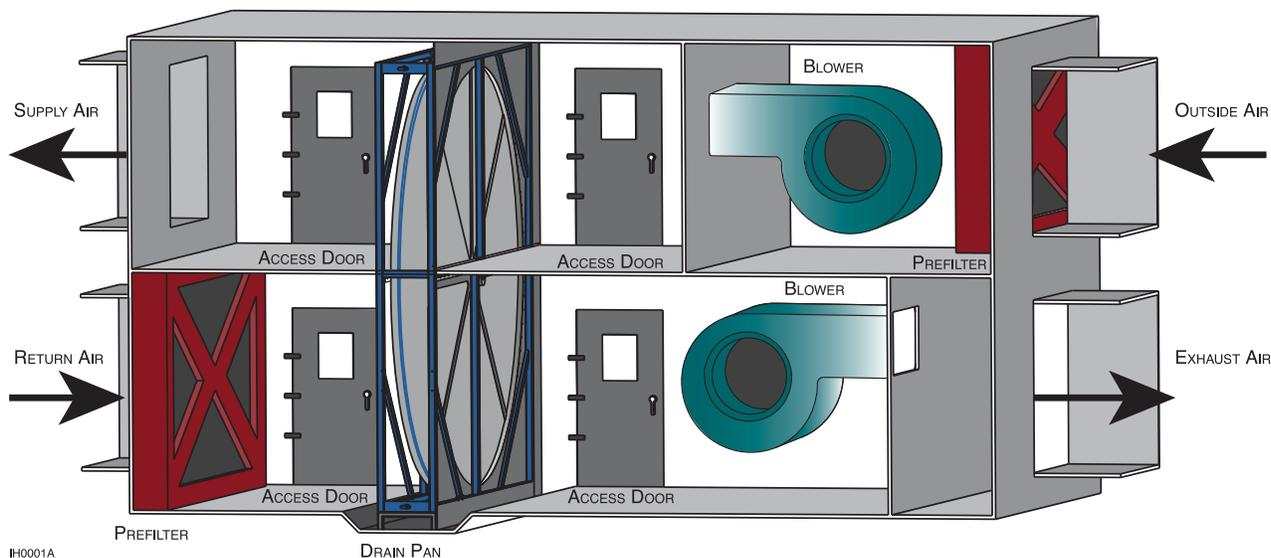

Figure 4.3
- As shown on figure 4.3, the wheels blank offs should be aligned with the face plate (side facing the outside air). If not, the top, bottom and side aluminum plate option is required (see section 2.7.2).